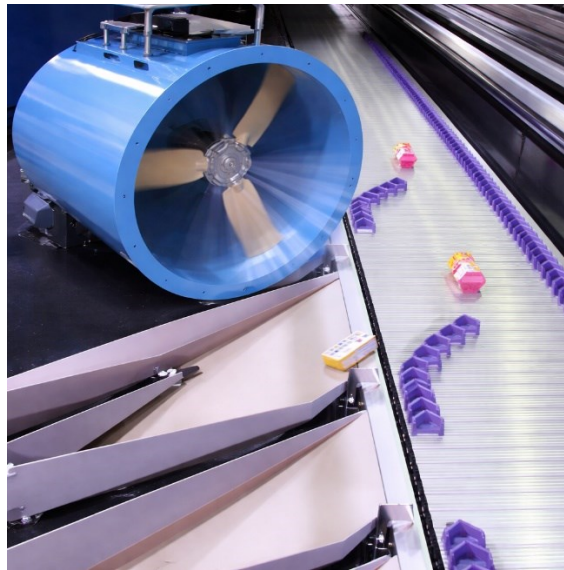

Fig. 1 Dummy automated line for chocolate bar sorting and cooling system
The system will convey chocolate bars along a belt where a temperature-sensing unit continuously measures their surface temperature. Based on this data, a cooling fan system will dynamically adjust its operation (on/off and variable speed control) to ensure that the chocolate bars reach an acceptable temperature range suitable for packaging. The inspection system should also include a measurement of the bar weight, which should be around 100 g. If not, a diversion mechanism should reject it and return it to the previous production stage, as shown in Fig. 1. After the cooling stage, a sorting mechanism will classify the products into:
1. Propose a solution to the above-mentioned system using the minimum required components, using the necessary mechanisms, Electronics, Computing, and Motor Drive to implement the mechatronic system in Figures 1 & 2.